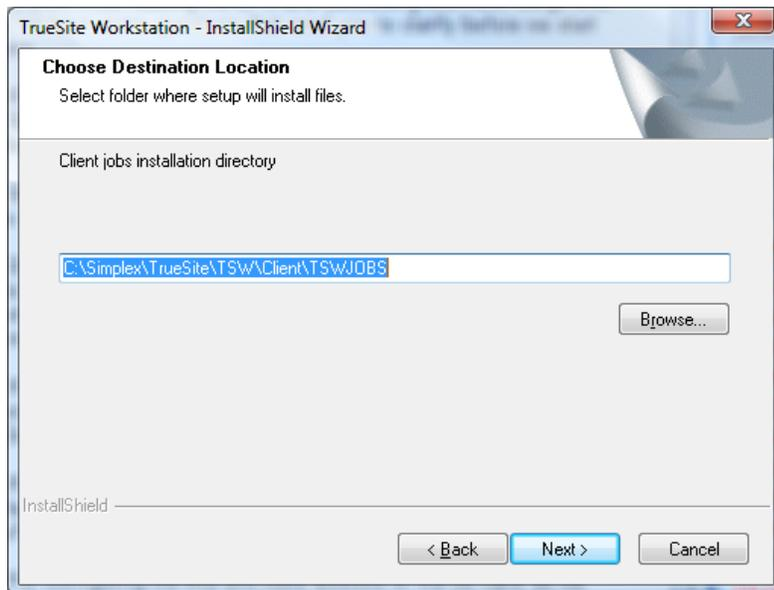

Figure 3-16 Choose Destination Location Dialog Box
- g. The Client jobs installation directory dialog box appears (see Figure 3-16). It indicates the location the TSW job files will be sent to. The default location is the C:\Simplex\TrueSite\TSW\Client\TSWJOBS, but it can be changed. Click **Next** to continue.